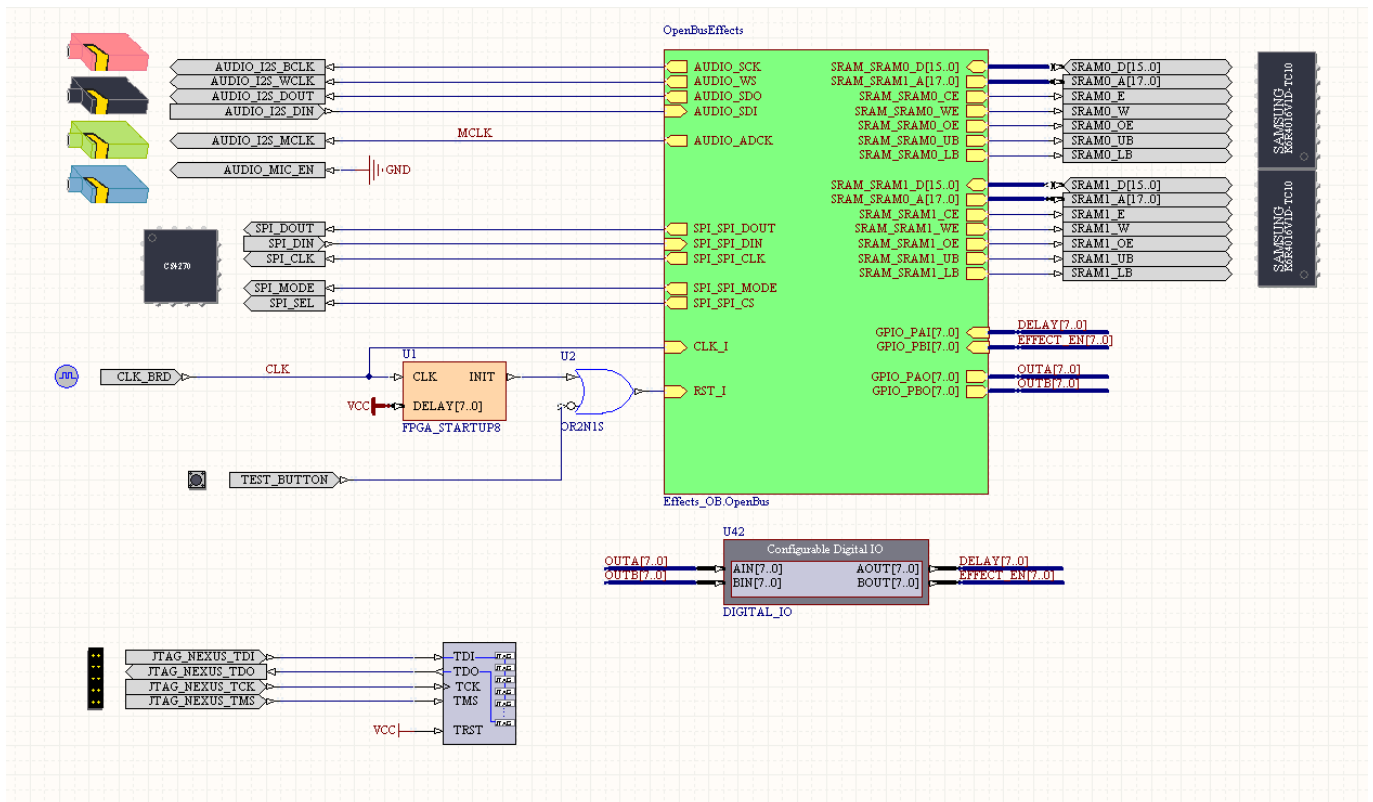

Figure 9. Finalizing the schematic wiring
1. A completed version of the `Effects_Sch.SchDoc` schematic is given in Figure 9. Use this as a guide to position the port-plugin components around the sheet symbol, then reorder the sheet entries so they will line up nicely with them.
2. Using Figure 9 as a guide, complete the wiring of the components in your design.